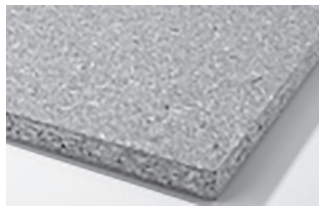

Fig. 5
- 8 Fig. 5 shows a manufactured board.
- (b) Describe briefly how the manufactured board shown in Fig. 5 is made.
- (c) The manufactured board shown in Fig. 5 is widely used in the production of mass-produced furniture.